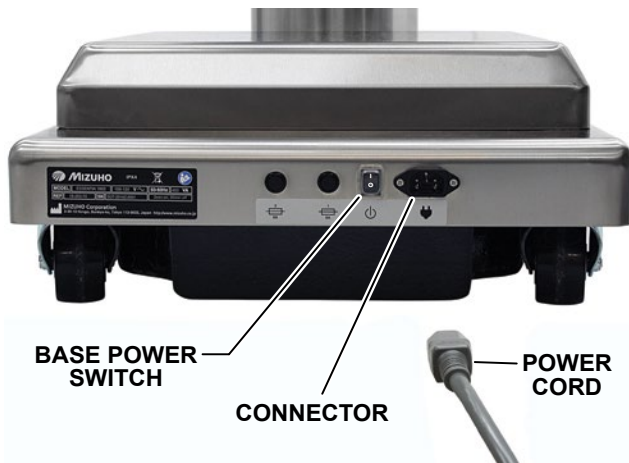

Figure 7. Base Electrical Panel
- a. Make sure the power cord is securely attached. To install the power cord, insert the cord into the base connector until it locks in place (Figure 7).